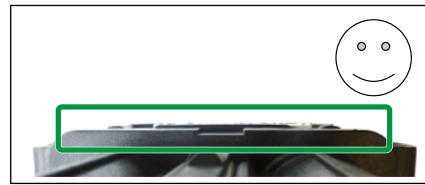

Fig. 19: Slider is in position and in latched position. O.k.!
- ▶ Check fixation of the slider by slightly levering the slider with a slotted screwdriver, with slot thickness x slot width between 1.0 mm x 5.5 mm to 1.2 mm x 6.5 mm (refer to **Fig. 19** and **Fig. 20**). The slider must be latched on both sides.